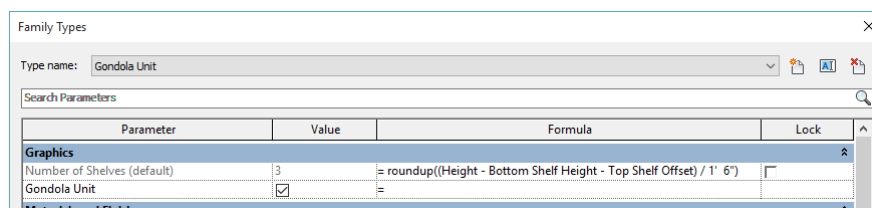

Figure 45
1. In the formula field next to Number of Shelves, input the formula shown in Figure 45: